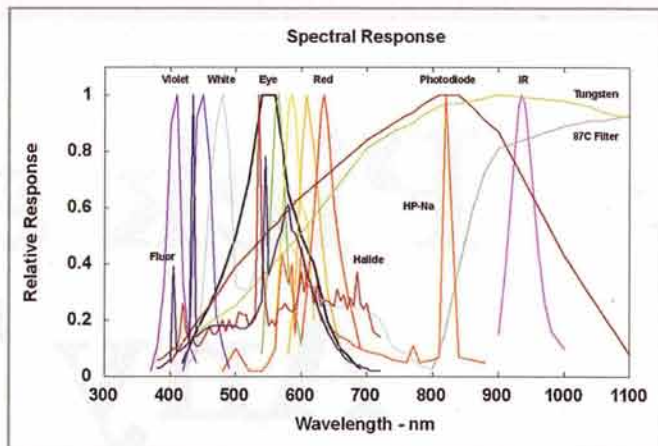

Figure 3—Many robots use Infrared distance sensors, but their silicon photodiodes can respond to energy from many sources.
in Figure 3 shows the response of an ordinary silicon photodiode. Although the peak of that curve doesn't quite match up with the peak of the IR curve showing the emission spectrum of an IR LED, it's reasonably close.
Figure 3—Here are some user-created bar graph characters that can be placed into Character Generator RAM locations CG RAM (0) – CG RAM (6). The lower group shows how these might be used to indicate an 18-bar graph using only six characters!
character count. Or is it? Remember those CG RAM (x) locations in the CG table. We can use these to define new characters used especially for bar graphs. See Figure 3 for the character glyphs along with the 8 bytes of data defining each glyph. While it takes only the top four glyphs to build a bar graph that grows from left to right, the additional three glyphs increase the possible graphs that grow from the right as well as balance type graphs that use a central reference and can build to the left and/or the right.